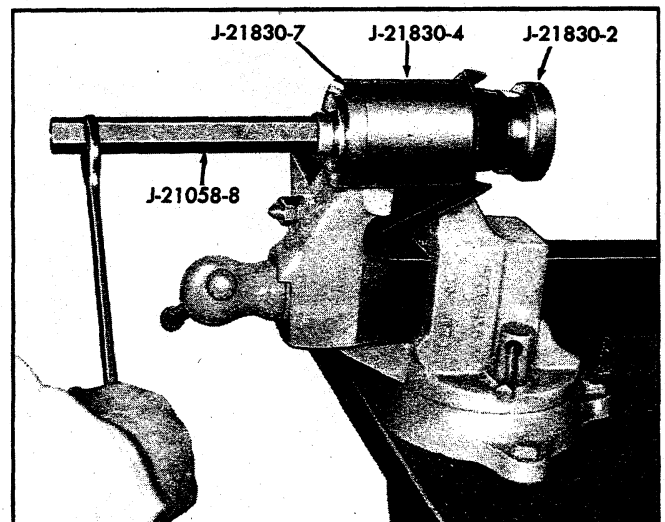

Fig. 31—Upper Control Arm Bushing Removal (Chevrolet)
2. Place Puller Screw J-21058-15 through Puller Adapter J-21830-2. Position puller screw through small end of bushing then install Receiver J-21830-4 and Bridge J-21830-7 over opposite end of bushing. Center receiver and bridge over flanged end of bushing then position thrust bearing and Nut J-21058-8 on puller screw. Refer to Figure 31 for installation of removal tools.